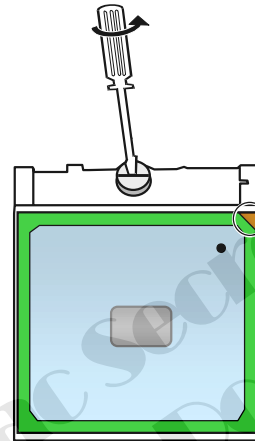

Figure 2-8 Remove the CPU
4. To remove the existing CPU, loosen the screw by a flat screwdriver, upraise the CPU socket to unlock the CPU. (Figure 2-8)